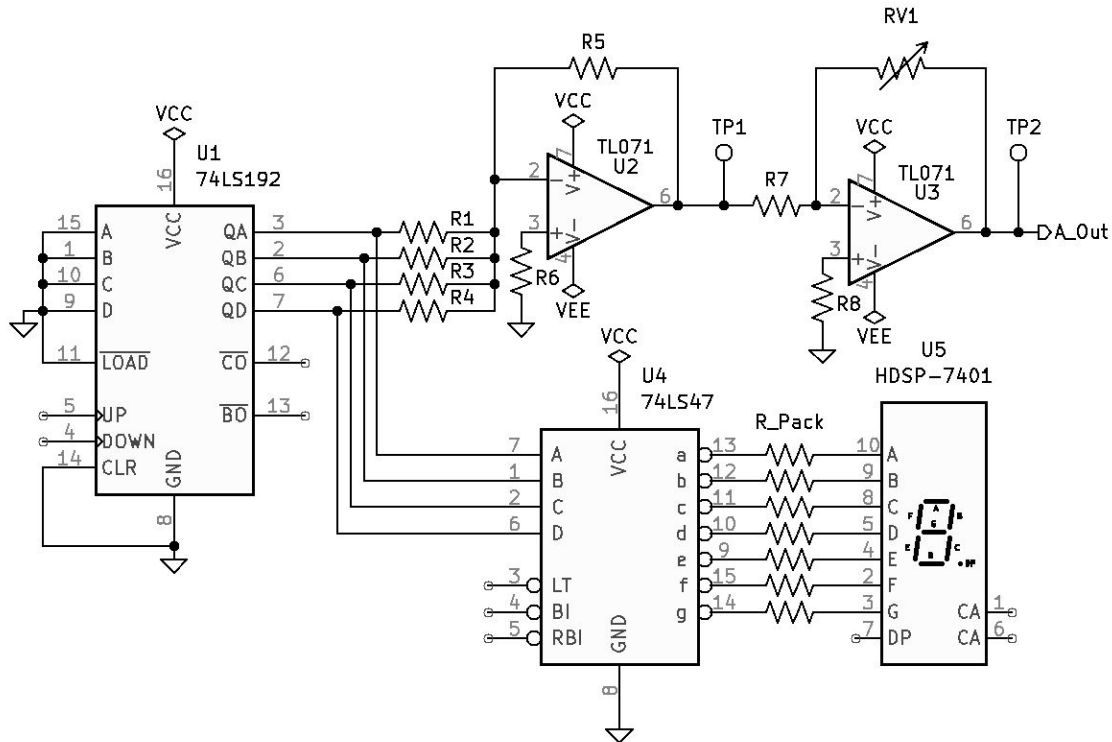

Figure 8.1: DAC Engineering Department Prototype Circuit.
1. The Engineering Department has sent you a DAC prototype circuit that they are working on. The DAC circuit is not working as expected. The Engineering Department needs you to analyze the circuit and make sure all the connections are correct. See Figure 8.1 *DAC Engineering Department Prototype Circuit* on page 76.